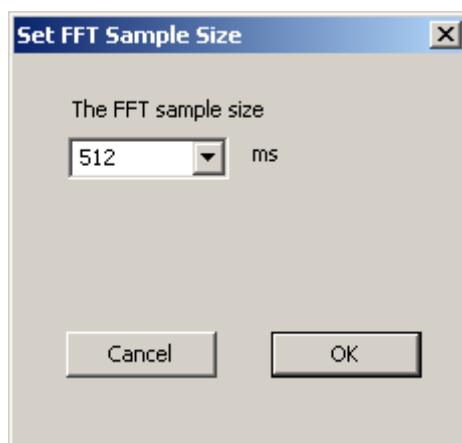

Figure 3.31: Set FFT Size dialog
- To change the FFT sample size, choose the menu item **Settings > Set FFT Sample Size**. The Set FFT Sample Size dialog is displayed (see Figure 3.31).